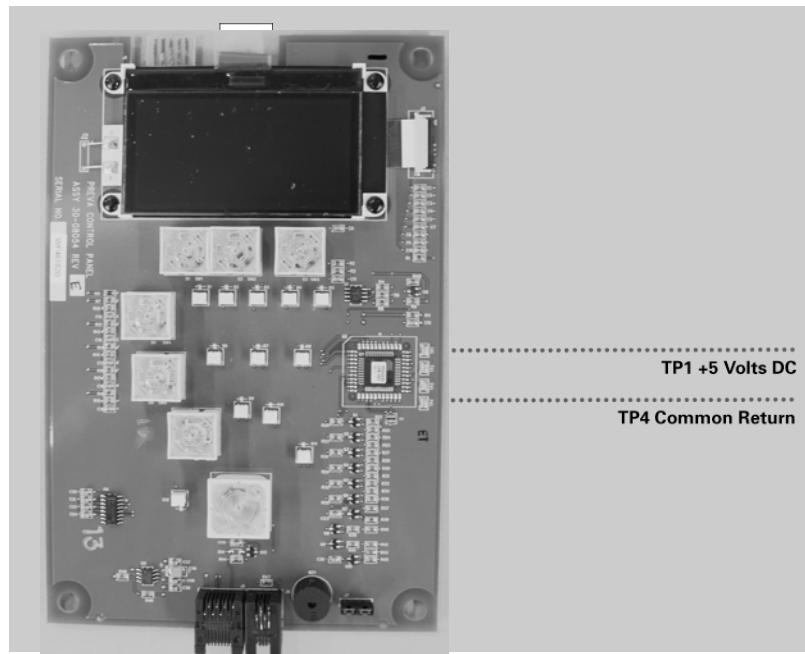

Figure 51
7. If the power supply voltages are present, and the ribbon cable and communication cable are found acceptable, open the Operator Panel case and measure for the presence of +5 volts DC across TP1 and TP4 of the Operator Panel Board, as shown in *Figure 51*. Absence of this voltage indicates the need to reconfirm the power supply voltages and communication cable. Presence of the voltage requires the replacement of the Operator Panel Board.